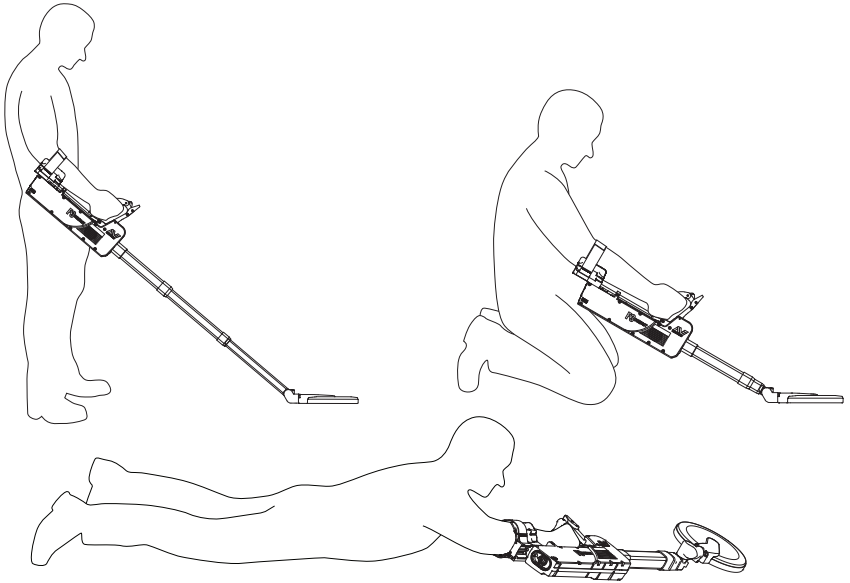

Figure 6: F3 COMPACT in the standing, kneeling or prone positions
- f. Extend the Lower and Middle Shafts to suit the selected demining position as shown in Figure 6.